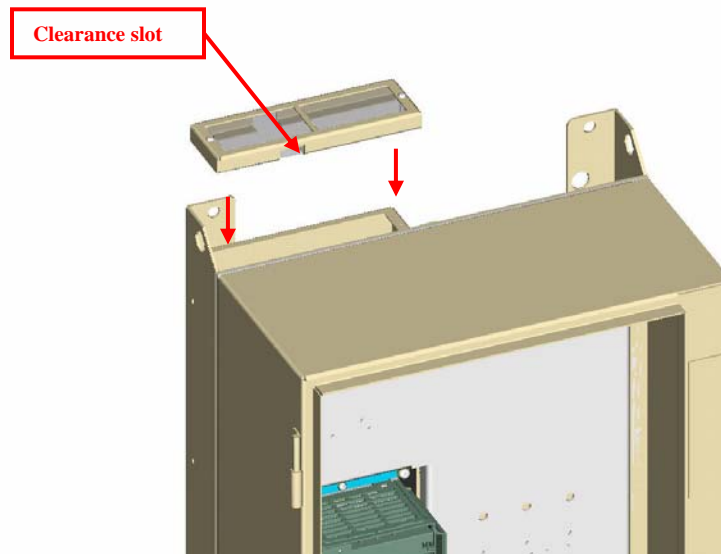

Figure 6 – Top filter housing assembly
Refer to Figure 6 – Filter housing assembly
- (1) Loosen the (2) screws provided with each housing. Note that these screws are captivated and should not be completely removed from the housing. Remove filter housing from filter duct.
- (2) Remove filter material from metal filter housing. Replace with new filter material according to *Replacement Filter Part No.* table provided above.
- (3) Reattach filter housing to filter duct using the (2) captivated screws provided with each housing. The housing has a clearance slot that must be properly aligned with the exposed screw on the back of the enclosure. See Figure 6 for diagram.